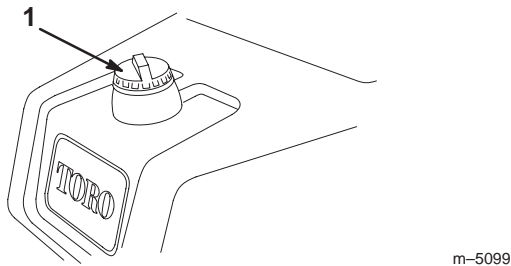

Figure 13
1. Clean around the fuel tank cap and remove the cap (Fig. 13). Add unleaded regular gasoline to the fuel tank until the level is 1 in. (25 mm) below the bottom of the filler neck. This space in the tank allows gasoline to expand. Do not fill the fuel tank completely full.